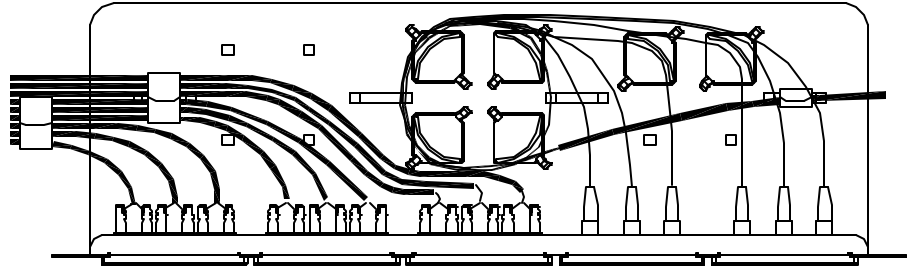

FIGURE 1
1. USE FIBER BEND LIMITING CLIPS TO STORE EXCESS FIBER AND TO PROVIDE BEND CONTROL. (SEE FIGURE 1).
NOTE: KEEP FIBER AND COPPER CABLES SEPARATED (SEE FIGURE 1).